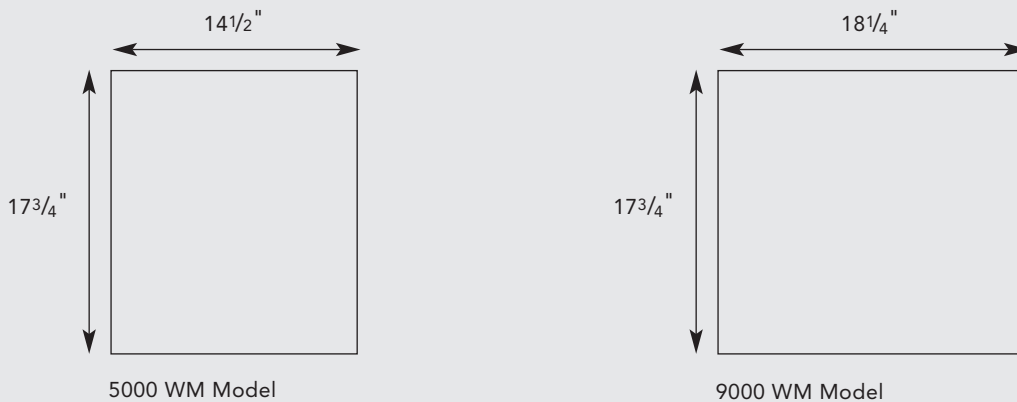

Fig.1
- The size of the opening required to be cut for installation is shown in Fig 1.
- Prepare the opening in the wall to accept the unit as shown in Fig 1. Depending on the wall framing layout, the 9000